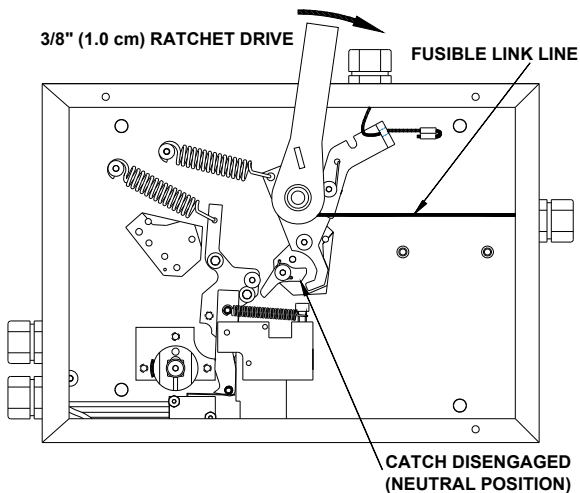

Figure 4-44.
3. Using a 3/8” (1.0 cm) ratchet with an extension, rotate the Fusible Link Ratchet clockwise until all slack has been removed from the cable and the Detection Arm begins to move. See **Figure 4-44**.